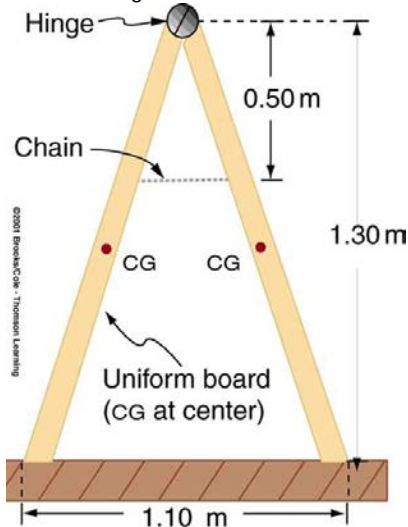

Figure 9.35 A sandwich board advertising sign demonstrates tension.
14. A sandwich board advertising sign is constructed as shown in **Figure 9.35**. The sign's mass is 8.00 kg. (a) Calculate the tension in the chain assuming no friction between the legs and the sidewalk. (b) What force is exerted by each side on the hinge?
15. (a) What minimum coefficient of friction is needed between the legs and the ground to keep the sign in **Figure 9.35** in the position shown if the chain breaks? (b) What force is exerted by each side on the hinge?